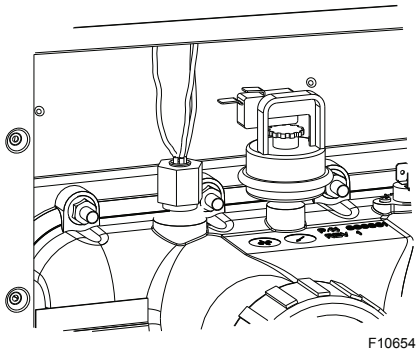

Figure 35. Digital Temperature Sensor Location
- Digital Models:** Remove the thermostat temperature sensor by loosening the compression fitting nut. Re-route the sensor to left side of the heater. See **Figure 35**.
- Remove (12) nuts holding the inlet/outlet and return headers to the tube sheets. Clean off tube sheet area where the gasket seats. Also clean off the header and the gasket. Apply a non-petroleum-based lubricant to the gasket such as Aqualube. Re-attach the headers to the opposite sides, making sure they are installed in an upright position. Do not over-tighten. Torque should not exceed 7 ft/lb. See **Figure 35**.